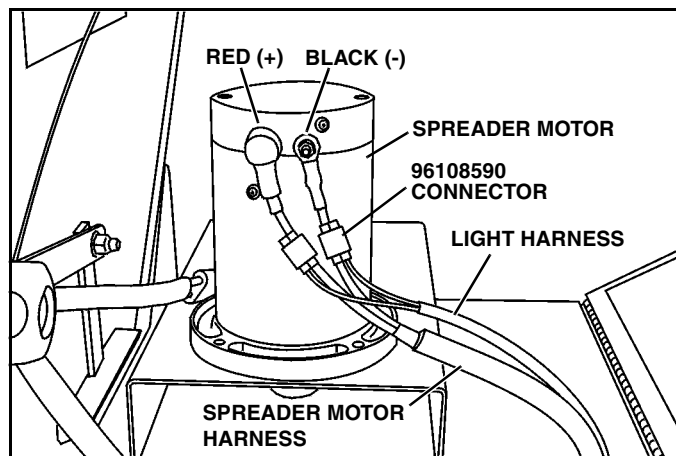

Figure 1-9
1. Route the Light Harness wires from the grommet in the motor platform to the spreader motor. Using 96108590 connectors, splice the black Light Harness wire to the black (-) motor wire, and the red Light Harness wire to the red (+) motor wire. Secure Light Harness to spreader motor harness with Wire Ties as necessary. (See Figure 1-9).